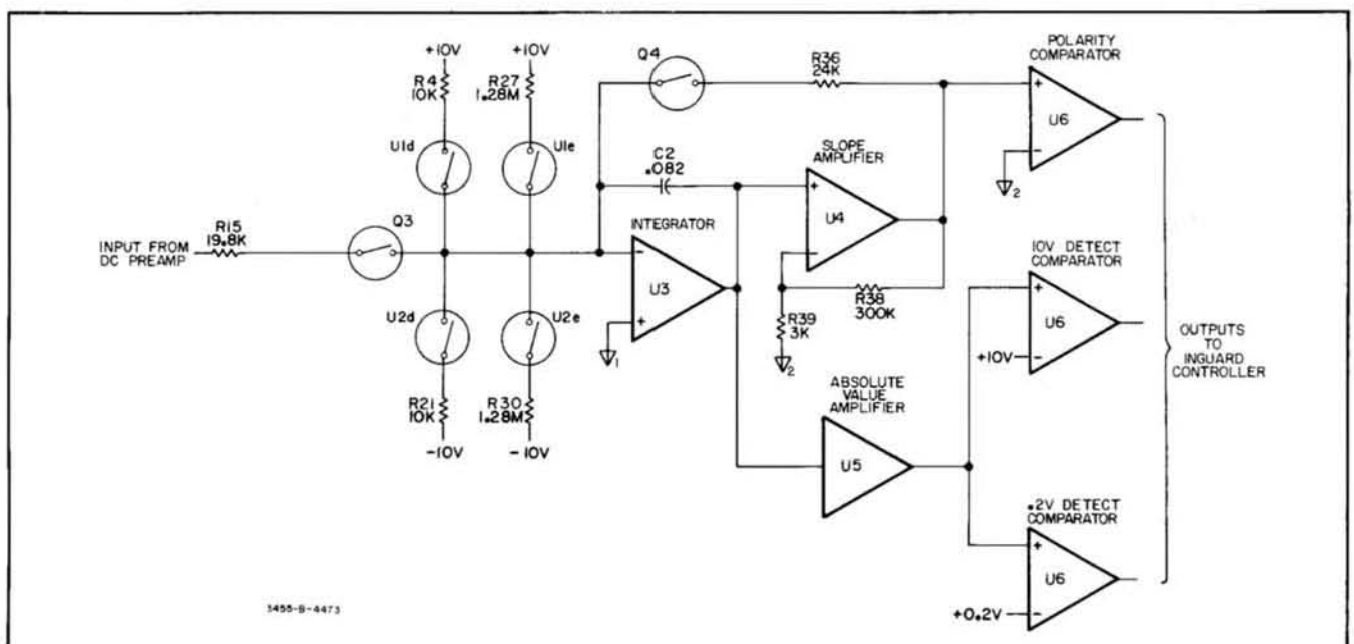

Figure 8-18. Simplified A/D Converter Diagram.
**8-45. Offset Error Measurement.** Figure 8-18 shows a simplified schematic of the A/D Converter. During the offset error measurement all input switches to the integrator are opened. During the integration period, the integrator is permitted to charge to a voltage equal to any offset current present in the integrator circuit. At the end of the integration period the integrator is "run-down" and the offset digitized and stored as the A/D Converter offset error by the main controller.